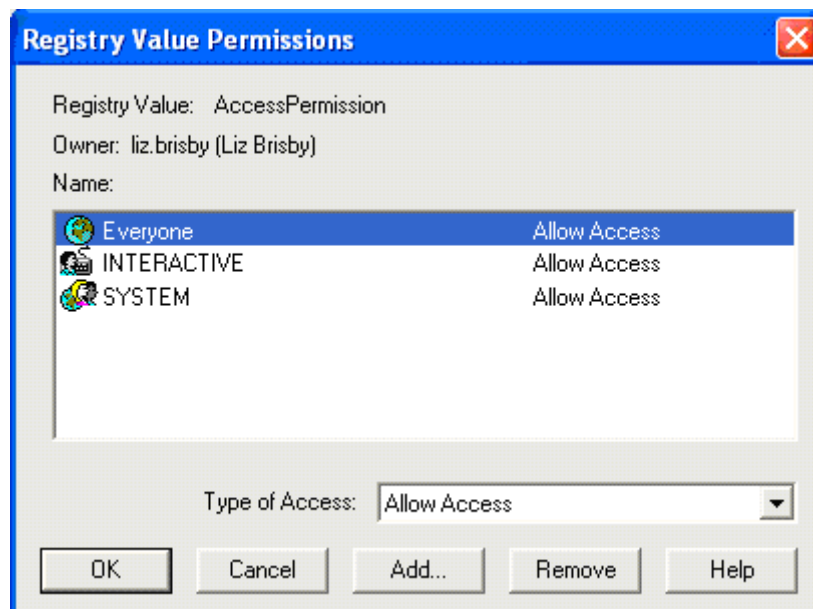

Figure 73 - Registry Value Permissions Window
8. The **Registry Value Permissions** window (Figure 73) appears.